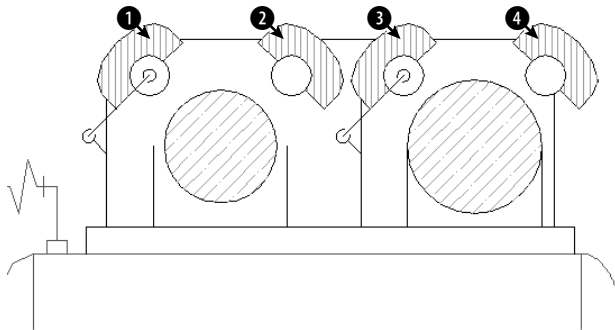

Figure 16-26: The result after editing the two hatches.
4. You're now back in your drawing. Pick the two large circles in Figure 16-26. Right-click and choose Preview. Press Esc to return to the dialog box. Click OK to create the hatch and end the BHATCH command.
6. Choose Add: Pick Points. In your drawing, pick points ①, ②, ③, and ④ in Figure 16-26. Right-click and choose Preview. Right-click again to create the hatch and end the BHATCH command.
8. Double-click one of the hatches at the top of the model. Notice that this action selects all of the hatches because they were created with one command. In the Hatch Edit dialog box that opens, change the angle to 90 and the spacing to 0.04. Click OK. Your drawing should look like Figure 16-26.